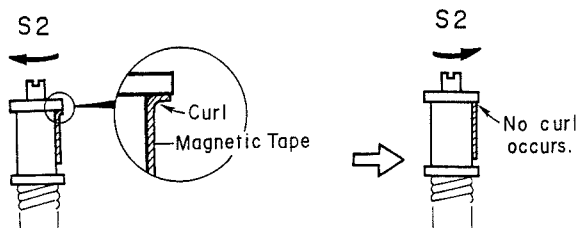

Fig. 6.33 S2 Height Adjustment
2. While viewing the tape travelling visually, lower S2 with a Guide Adjuster until the tape curls slightly as shown in Fig. 6.33 (the left figure).